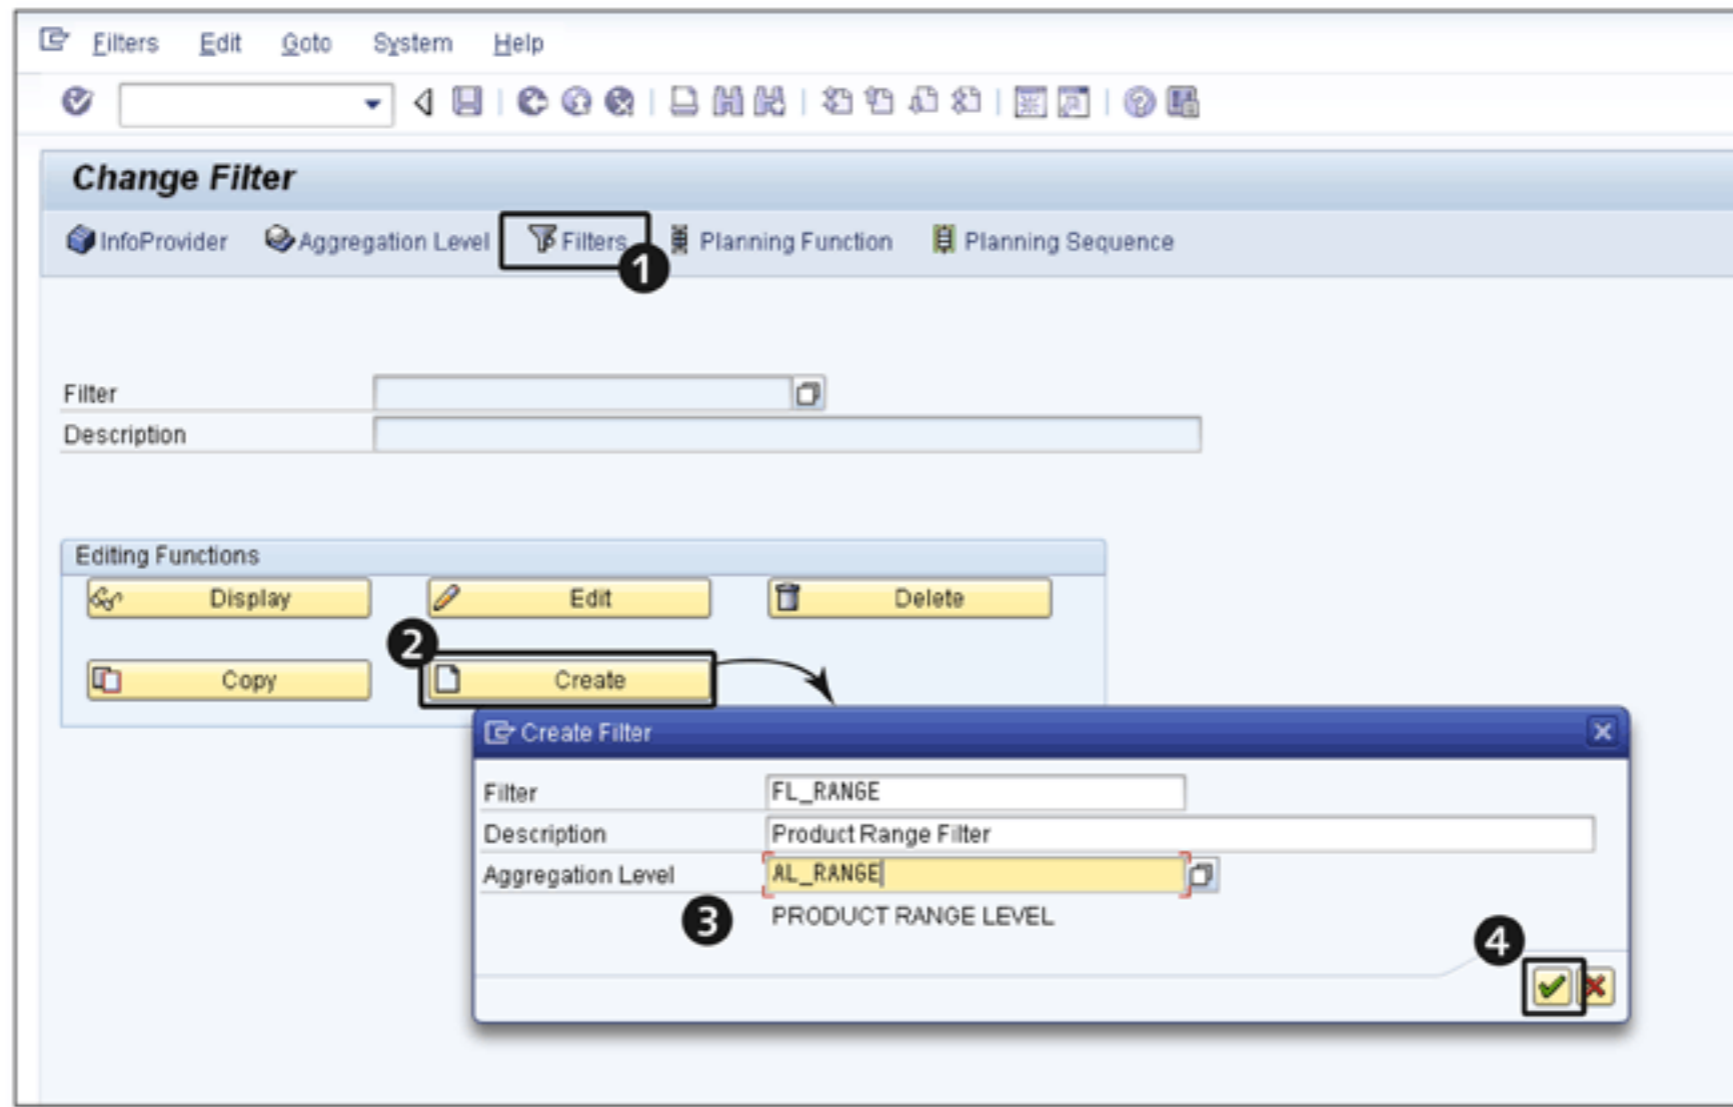

Figure 12.27 Create Planning Filter
To create planning filters, go to the FILTER section in Transaction RSPLAN (❶ of Figure 12.27), and click on CREATE (❷). This gives you a pop-up screen where you define the filter.
Enter the TECHNICAL NAME and DESCRIPTION of the filter as shown in ❸ of Figure 12.27. Select the aggregation level over which you want to build the filter (❸), and click on OK (❹).